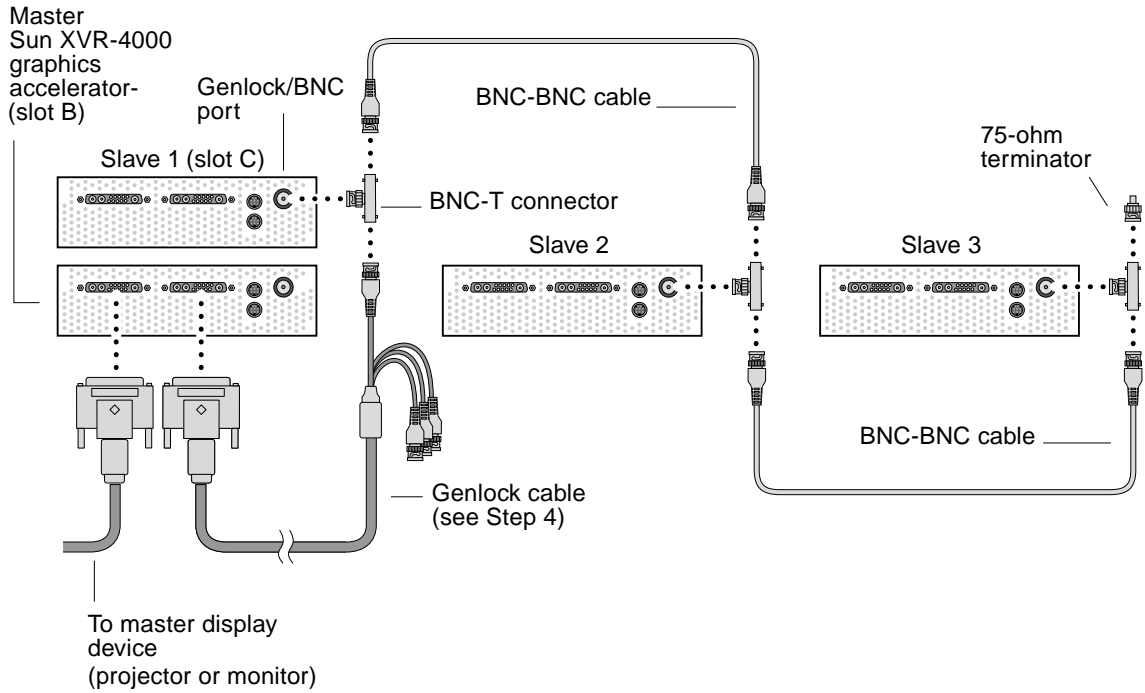

FIGURE 8-2 Sun XVR-4000 Graphics Accelerator Genlock Cabling
- 2. Connect the 13W3 connector end of the genlock cable to the Sun XVR-4000 graphics accelerator 13W3 monitor connector selected for genlocking (FIGURE 8-2).**
- 3. Attach a BNC-T connector to the slave back panel genlock/BNC connector of the Sun XVR-4000 graphics accelerator (FIGURE 8-2).**
- 4. Connect the proper BNC connector end of the genlock cable to one end of the BNC-T connector (FIGURE 8-2).**
FIGURE 8-2 shows the master Sun XVR-4000 graphics accelerator in Slot B of the Sun Fire V880z server. The first slave Sun XVR-4000 graphics accelerator is in Slot C. The second and third slaves are on two additional Sun Fire V880z servers.